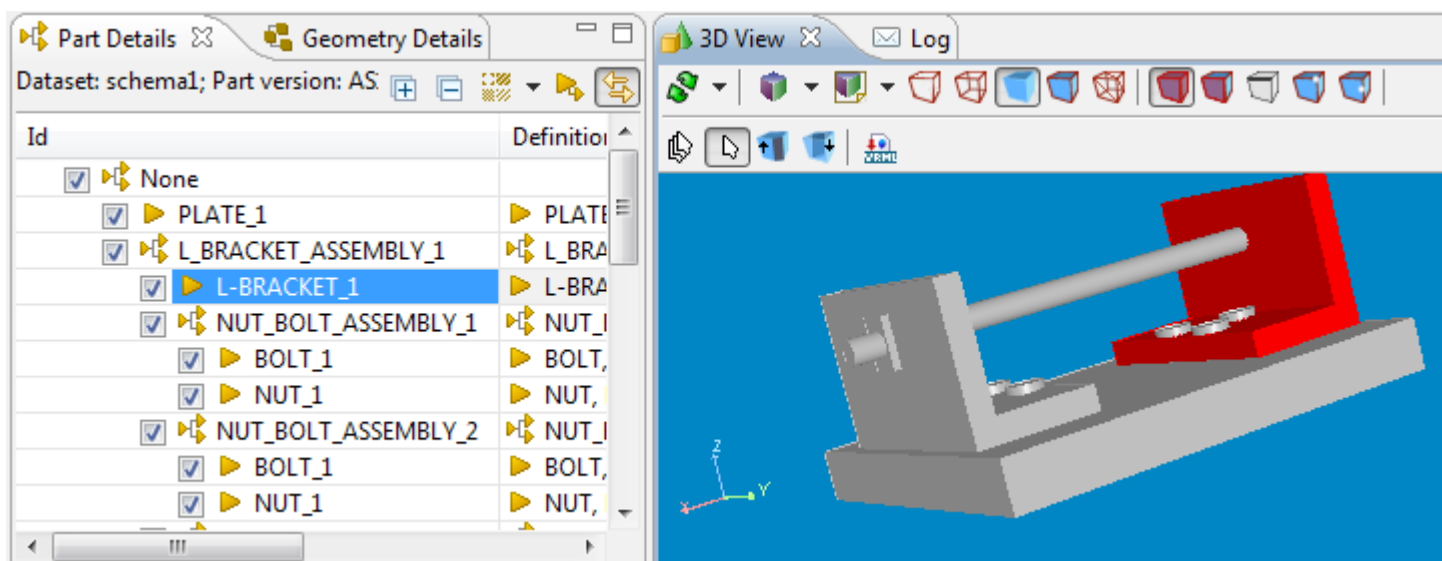

Figure 2. Selected object (in Part Details view) is highlighted in 3D view and vice versa
- The selected component is highlighted in the  **3D View** (see Figure 2).